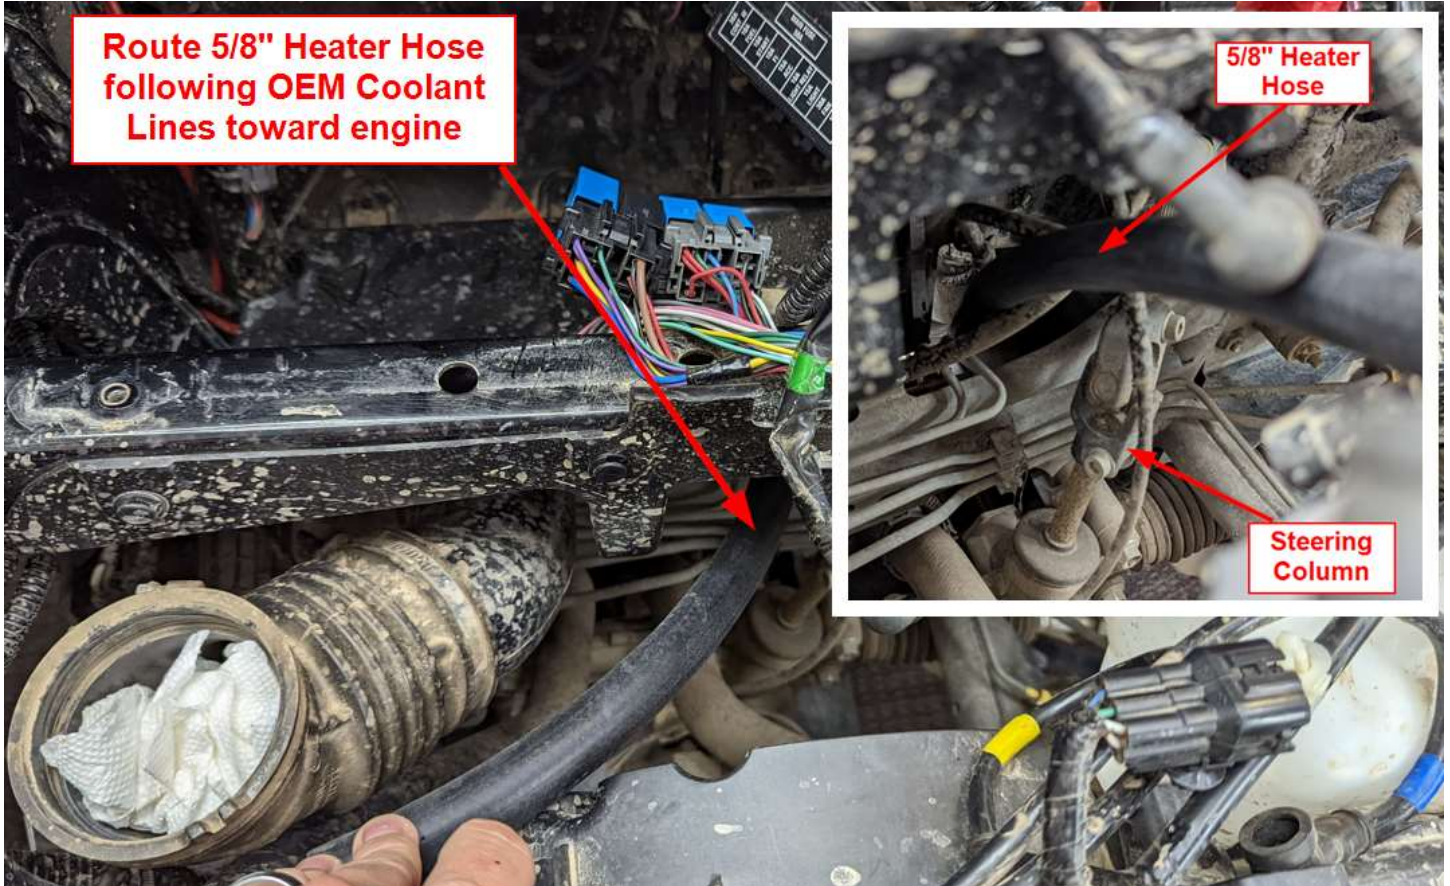
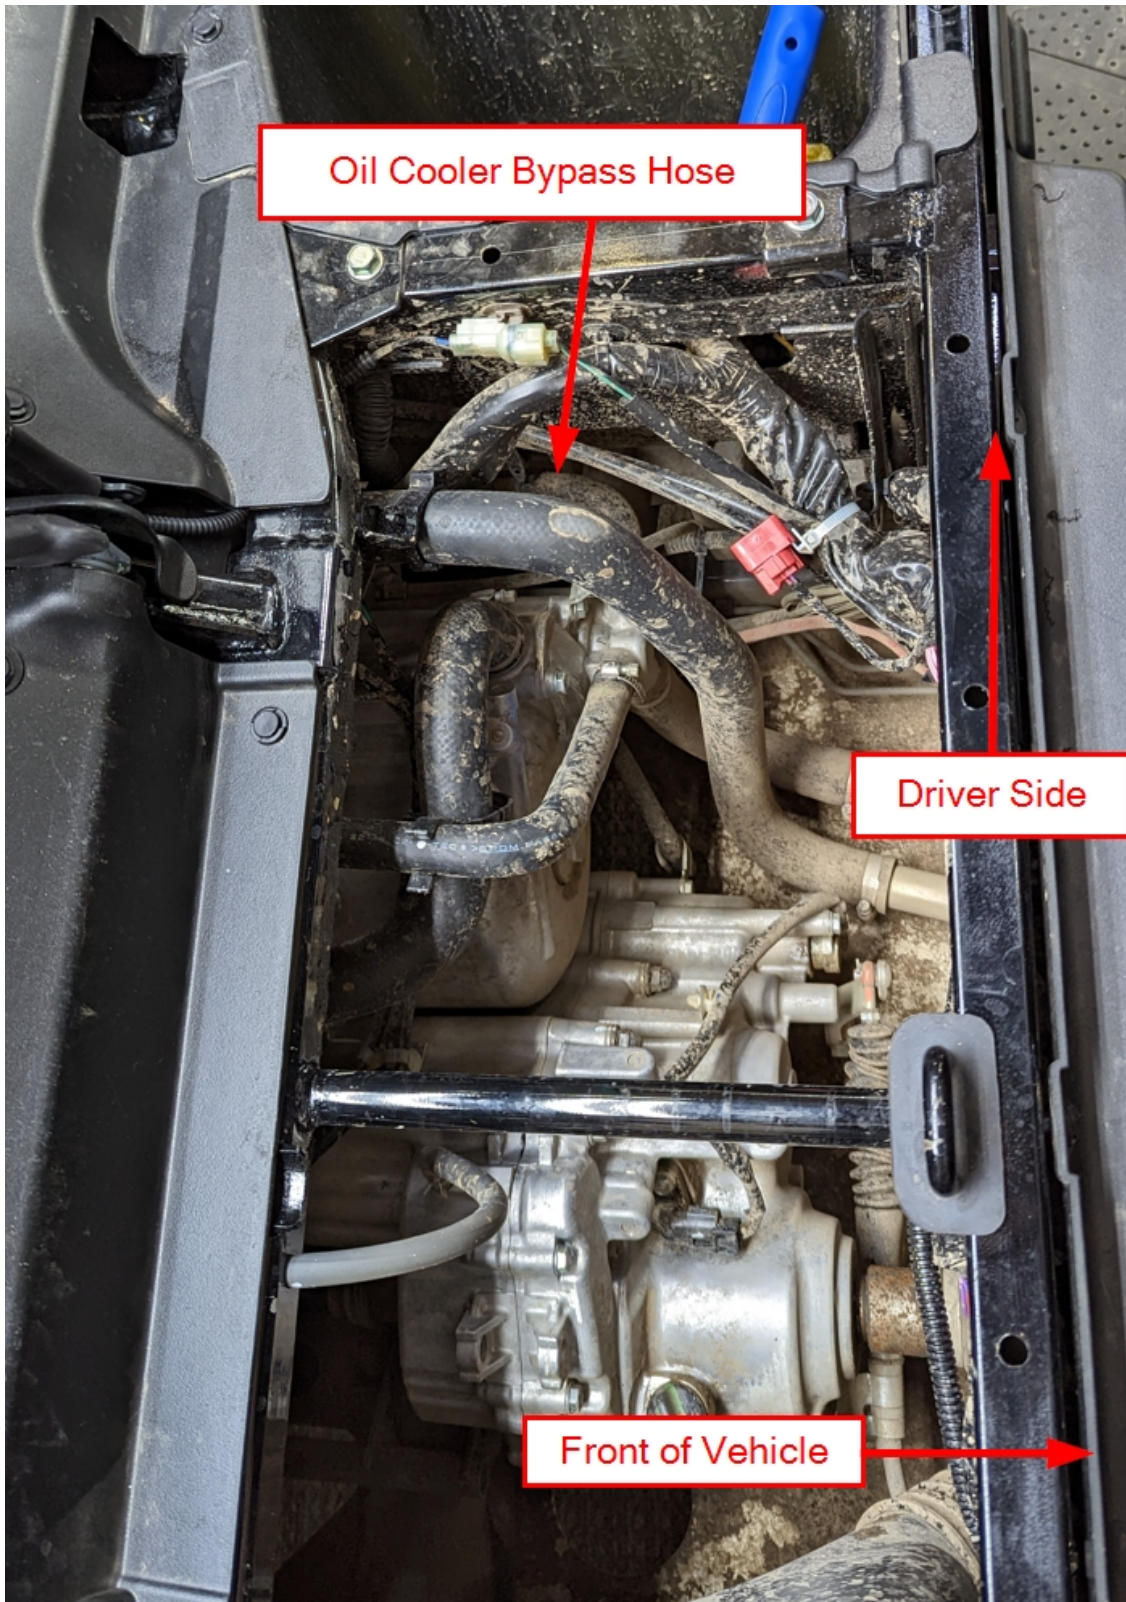

Figure 16
Figure 17
- a. Cut a 6 foot piece of 5/8" Heater Hose and from the radiator side of the firewall, route the 5/8" Heater hose toward the engine bay following the OEM radiator lines as shown in Figure 16 and Figure 17.